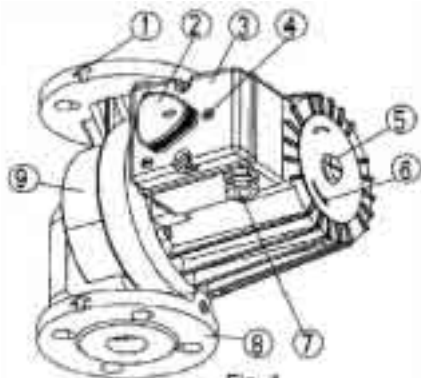
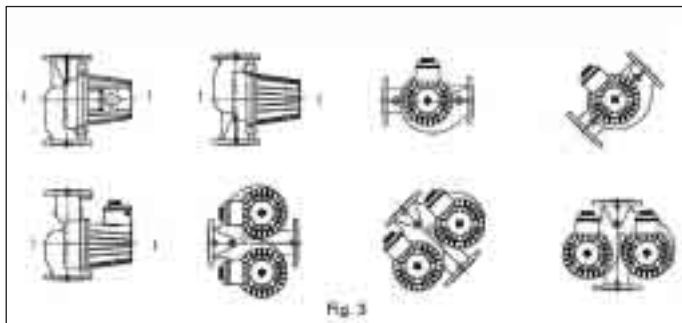

Fig. 1
Fig. 3
The pump has to be installed into the piping system with the pump axis 1-1 in horizontal position (Fig. 3). It has to be installed into the straight piping section having the length of at least 5-10 D (D = nominal diameter of the pump tube) from the knee. This will ensure its operation with minimum vibration and noise. The direction of water flow through the pump must match the direction indicated by an arrow on the pump casing (Fig. 1 – Pos. 1).
The connecting flanges are NP 6/10 (Fig. 1 – Pos. 8).
The NC and NCM pumps have a single hydraulic casing (Fig. 1 – Pos. 9).
Each pump is able to cover three hydraulic fields, and for this reason such pumps are provided with electric motors for three different speeds. The characteristics or speed desired (3, 2, 1) can be selected using the connector marked with an arrow (Fig. 1 - Pos.2).
- Pull out the button of the three-position connector (Fig. 1 – Pos. 2) on the electric motor cover (Fig. 1 – (Pos. 3), rotate it to the speed desired (1, 2, 3), and push it down to end stop.
With the pumps of types NC, NCD (NCM, NCDM) the rotor of electric motor is submerged and provided with water-lubricated bearings. Before putting the pump into operation, it has to be filled with water and deaerated. Deaerate the pump by unscrewing a screw on the back side of the electric motor (Fig. 1 – Pos. 5). Air will flow out through the cleft between the motor shaft and bearing. When water starts to flow out, close the valves at both the suction and pressure side of the pump. Start the pump and check the direction of shaft rotation. It has to match that indicated on the electric motor nameplate (Fig. 1 – Pos. 6). In case of a wrong direction, interchange with the three-phase pumps the phases L1 and L2 (Fig. 4). For single-phase pumps the rotation direction is always correct. When a correct rotation of the pump shaft has been established, tighten the screw (Fig. 1 – Pos. 5), and open the valves at both the suction and pressure side of the pump.